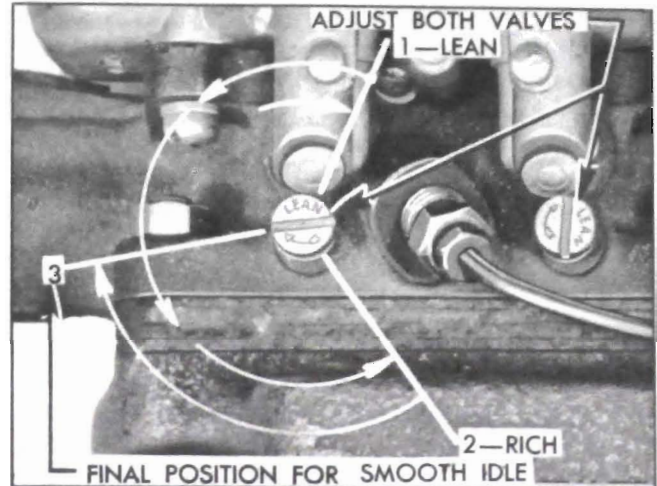

Figure 3-8—Adjustment of Idle Needle Valves
2. With engine at normal operating temperature and idling at 525 RPM (575 RPM on air conditioned cars) in neutral or park, adjust one needle valve at a time (Figure 3-8) to provide smooth idle, as follows: